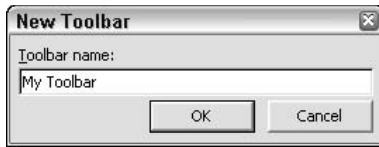

Figure 23-23: Name your toolbar anything you like – perhaps after your spouse, your pet, or your favorite movie star.
2. Click the New button. The New Toolbar dialog box appears, as shown in Figure 23-23.